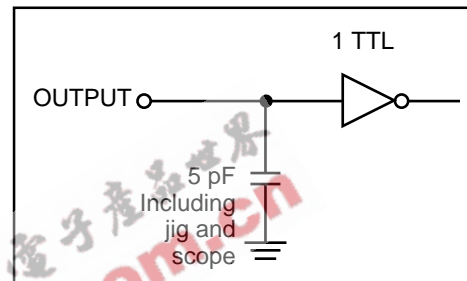

Figure 2
- Tested with the load in Figure 2. Transition is measured ±500 mV from steady-state voltage. Not 100% tested.
3. Tested with the load in Figure 2. Transition is measured ± 500 mV from steady-state voltage. Not 100% tested.